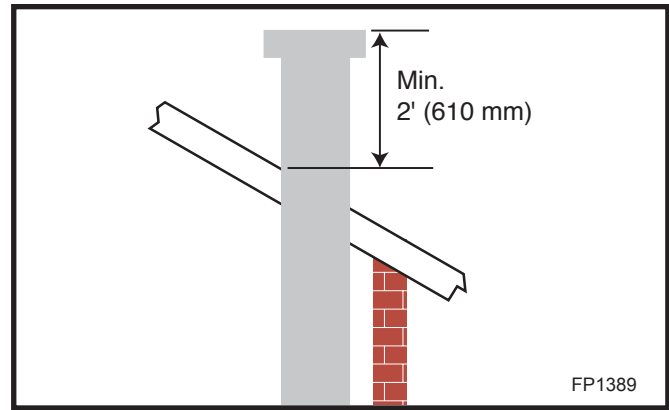

Fig. 31 Minimum termination to roof clearance.
- The minimum height of the vent above the highest point of penetration through the roof is 24" (610 mm) (Fig. 31)
10. Add additional vent lengths for proper height. (Fig. 31)